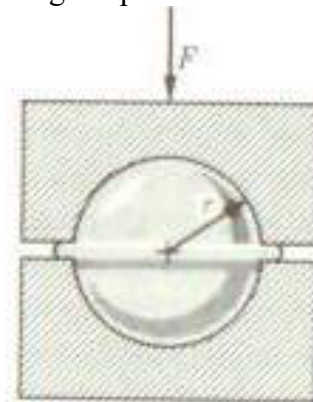

Fig. 2. Ball forging
2. Ball bearing balls are formed cold from wire stock in a closed-die (see Fig. 2). Consider a ball of 0.2 in. in diameter made from wire having an initial diameter of 0.15 in. The variation in length of the wire slug sheared from the rod is  $\pm 3\%$ . This gives rise to the variation in flash. The slug length is adjusted so that at its maximum length, the cavity is just filled and maximum flash thickness is 0.005 in.